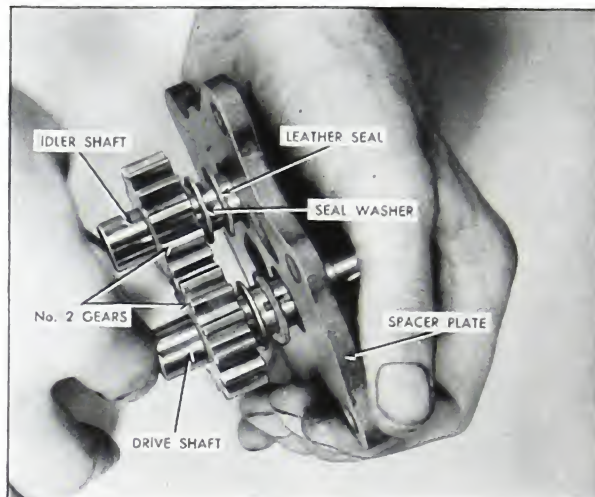

Fig. 5-85. Assembling gear seals
2. Assemble the gears and shafts to the spacer plate with the deeper counterbores in the spacer plate to receive the leather seal and seal washer. Always use a new leather seal. The drive shaft fits in the hole located between the two dowel holes in the spacer plate. Fig. 5-85.